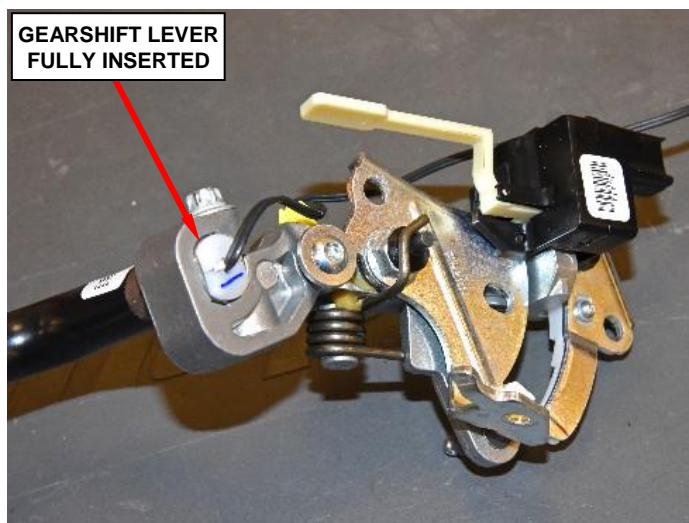

Figure 15 – Gearshift Lever Insertion
- 26. Install the gearshift lever to the **new** gearshift bracket / BTSI assembly and ensure the gearshift lever is fully inserted into the gearshift bracket (Figure 15).